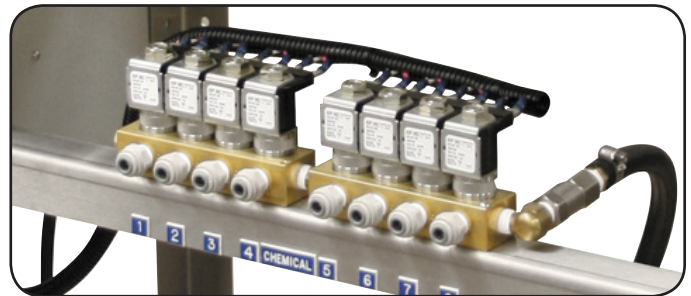

figure 3
3. Run 1/4" Tubing (provided) from solenoids for each bay to manifolds. **(Fig. 3)**